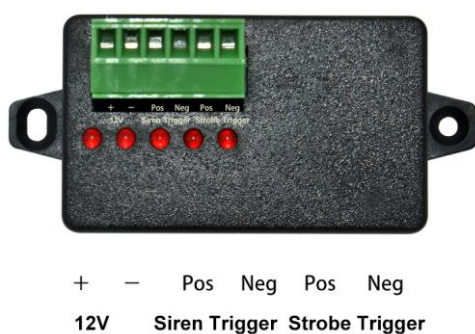

Fig 1 Transmitter wiring
1. Install the transmitter first. Connect the transmitter to an alarm panel - fig 1. Each siren or strobe trigger needs ONE wire connection only – either Pos or Neg. Turn both alarm panel and transmitter's power on.